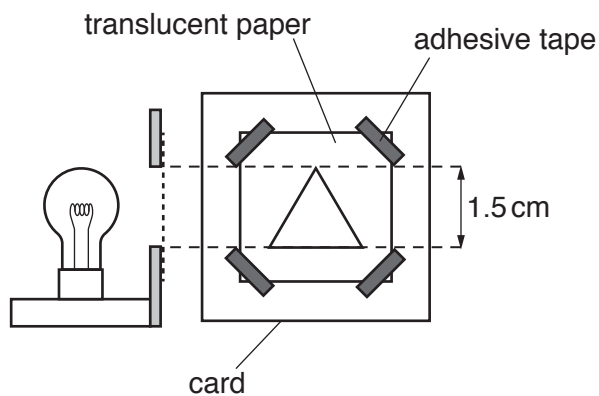

Fig. 3.1
- (ii) Illuminated object with a triangular hole of height 1.5 cm (see Fig. 3.1). The hole is to be covered with thin, translucent paper (e.g. tracing paper). See note 2.